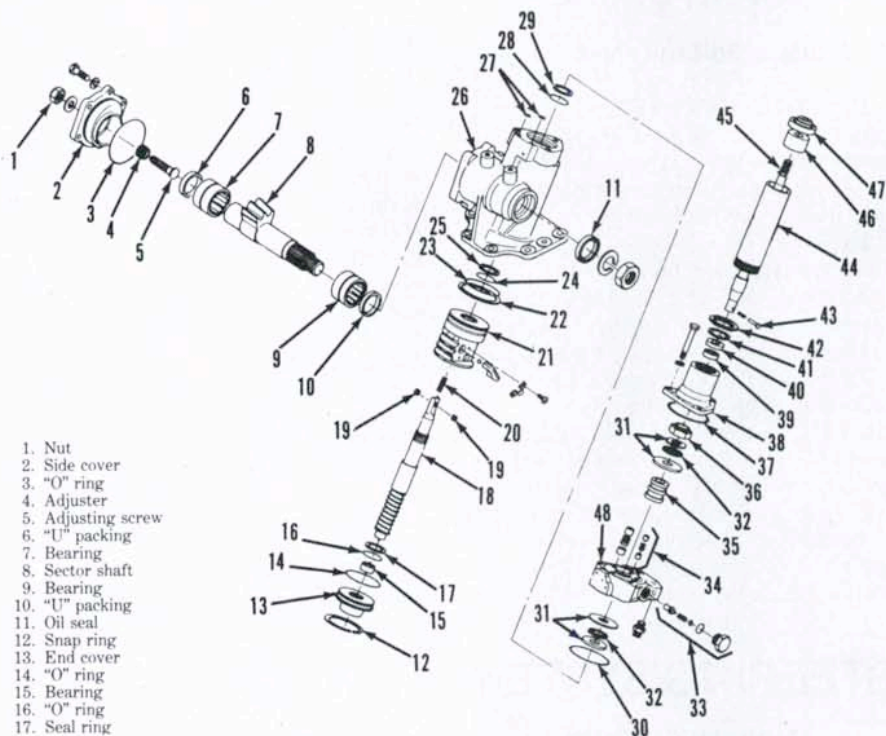
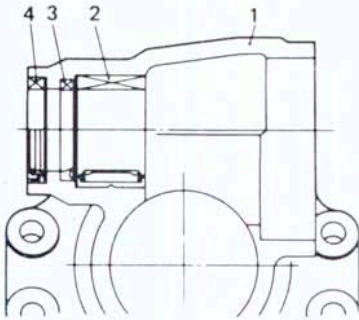
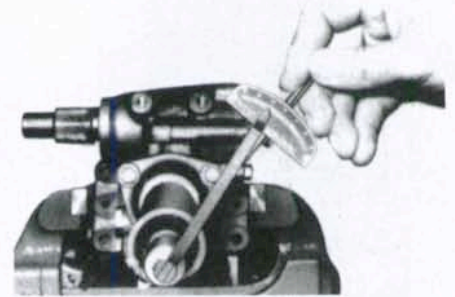

Fig. 28—Exploded view of integral type power steering used on some models.
Fig. 29—Open side of sector shaft "U" packing (3) should face inward and open side of seal (4) should face outward.
Fig. 38—As a final assembly check, measure torque required to start rotation of worm shaft. Torque should not exceed 1.7 N·m (15 in.-lbs.)
If unable to obtain recommended pressure, check hydraulic pump output as outlined in paragraph 19. If pump output is satisfactory, remove and inspect relief valve poppet and spring (33 - Fig. 28).
To disassemble, first place match marks on pitman arm and sector shaft. Use a suitable puller to remove pitman arm. Drain oil from housing. Remove steering column (44 - Fig. 28). Drive out rivet and spring pin (43) and remove steering shaft (45), then unbolt and remove top cover (38). Secure worm shaft (18) and remove locknut (36). Separate valve assembly and thrust bearings from housing. Remove side cover mounting cap screws, then turn adjusting screw (5) clockwise to remove side cover (2). Remove sector shaft retaining ring (12) and bottom cover (13). Withdraw ball nut assembly (21).
When renewing needle bearings, position bearings in housings so press force is applied against side of bearing with manufacturer's marks. Install new oil seals, "O" rings and Teflon seal rings as shown in Figs. 29 through 34. Lubricate seals and "O" rings prior to reassembly. Apply molybdenum disulfide "Molycoat" to steering column bushing (46—Fig. 28) and oil seal (47).
Check backlash between sector gear and ball nut using a dial indicator as shown in Fig. 37. Turn adjusting screw (5—Fig. 28) as required to obtain recommended backlash of 0.1-0.4 mm (0.004-0.016 inch). To check for proper final assembly of steering gear, use a torque wrench as shown in Fig. 38 to measure torque required to start rotation of worm shaft. Torque should be less than 1.7 N·m (15 in.-lbs.). If measured torque exceeds 1.8 N·m (16